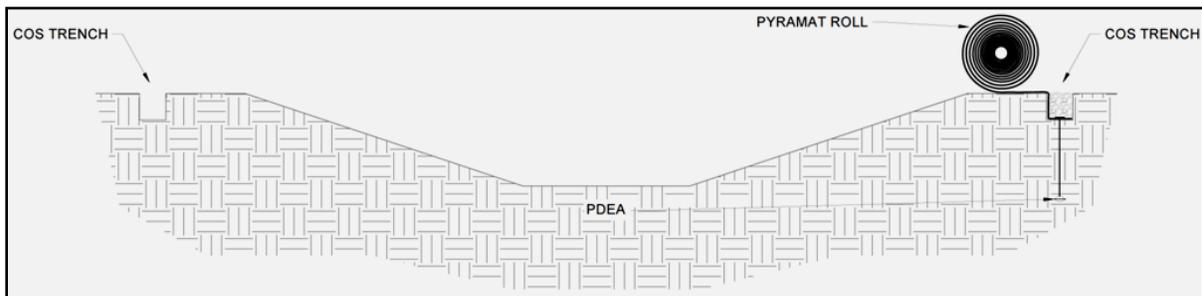

Figure 18: Crest of Slope (COS) Trench Placement
- Backfill and compact the COS trench in the location of the first Pyramat panel only (Figure 18).